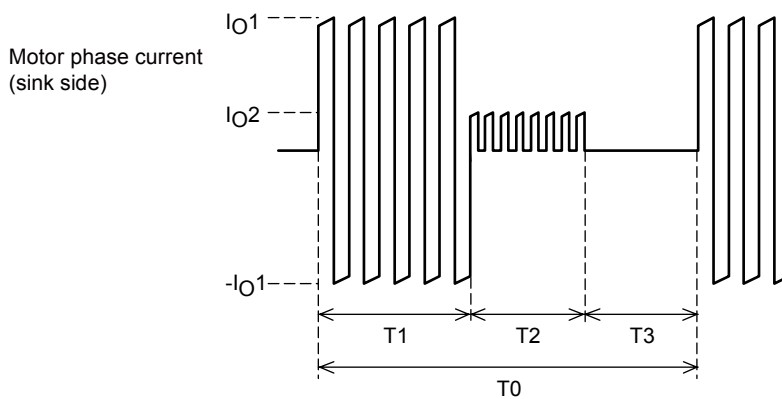
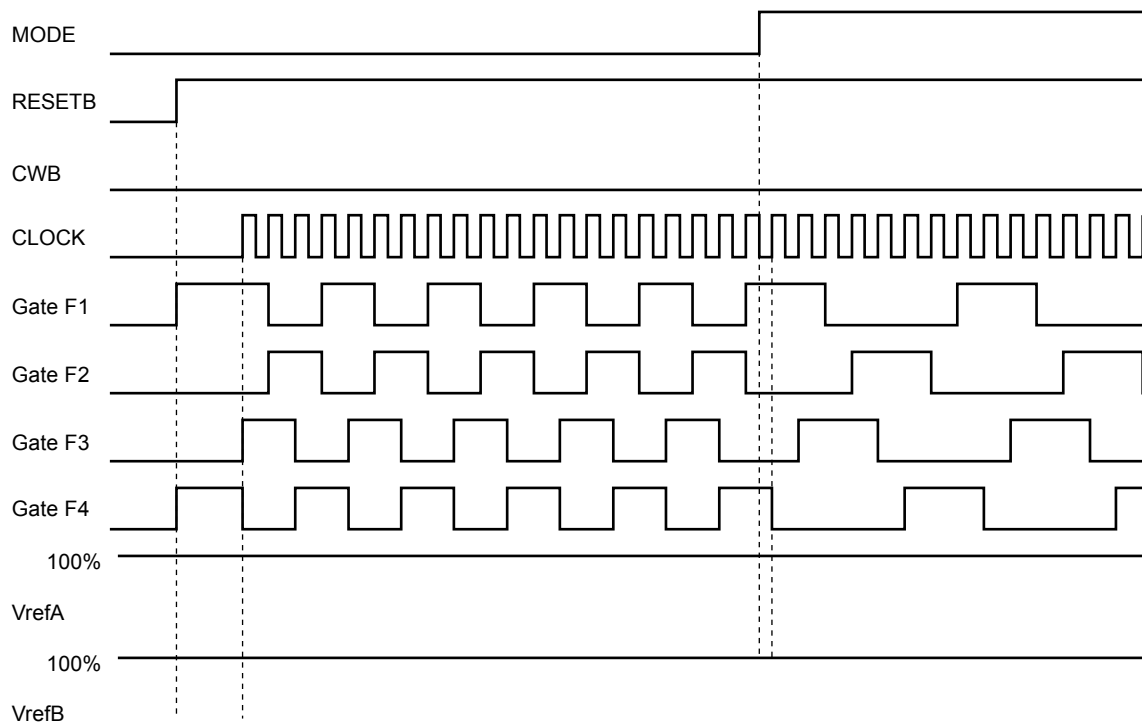

Figure 4 Motor Current Timing
Figure 5 Hybrid IC internal average power dissipation,  $P_D$  - Motor current,  $I_{OH}$
As shown in figure 6, the value of  $\Delta T_c$  increases as the hybrid IC internal average power dissipation PD increases. As shown in figure 5, PD increases with the motor current. Here we describe the actual PD calculation using the example shown in the motor current timing chart in figure 4.
Since there are periods when current flows and periods when the current is off during actual motor operation, PD cannot be determined from the data presented in figure 5. Therefore, we calculate PD assuming that actual motor operation consists of repetitions of the operation shown in figure 4.
Note that figure 4 presents the concepts here, and that the on/off duty of the actual signals will differ.
While the operating range when a heat sink is not used can be determined from formula (I) above, figure 5 is merely a single example of one operating mode for a single motor.
For example, while figure 5 shows a 2-phase excitation motor, if 1-2 phase excitation is used with a 500Hz clock frequency, the drive will be turned off for 25% of the time and the dissipation PD will be reduced to 75% of that in figure 5.